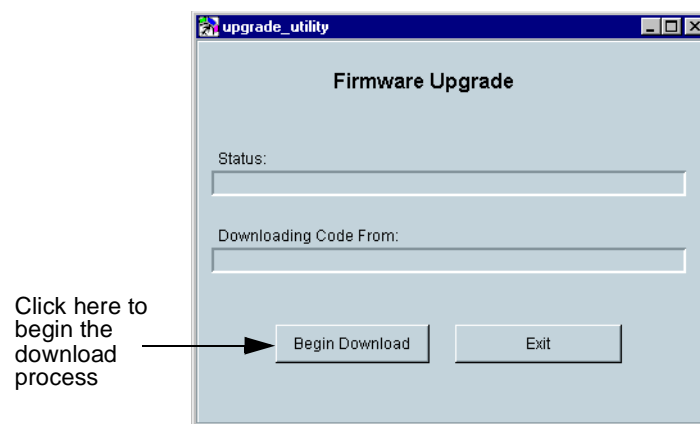

Figure 6-1. Firmware Upgrade Utility
1. Locate the executable file *upgrade_utility.exe* in the directory Hpj422xa and start the utility to display the window shown below in Figure 6-1.